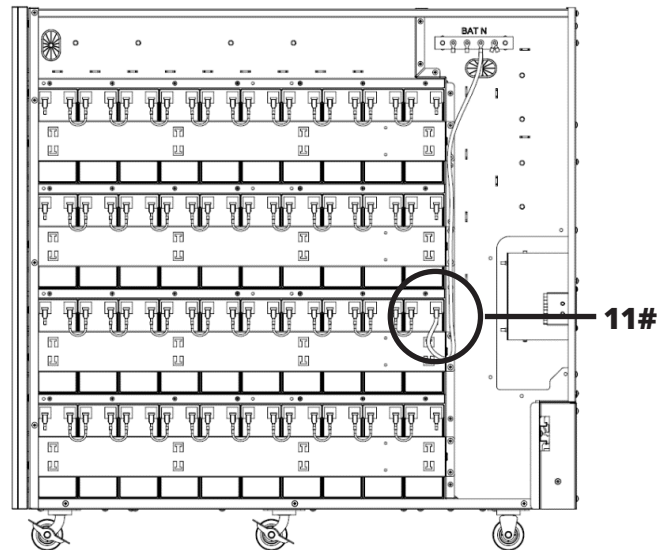

Figure 5-17B
24. Connect group 2 battery 11+ to N battery bus bar (BAT N) (Figure 5-17B).